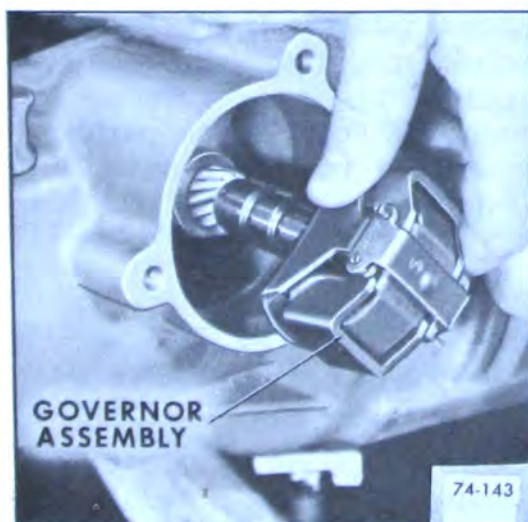

Figure 74-345
1. Slide governor into case. Turn governor assembly so teeth on governor gear engage teeth on output shaft. See Figure 74-345.